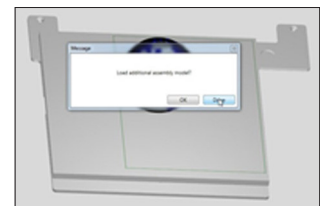

Fig. 74
3. Continue following this process until all of your .stl files are open. (Fig. 74)